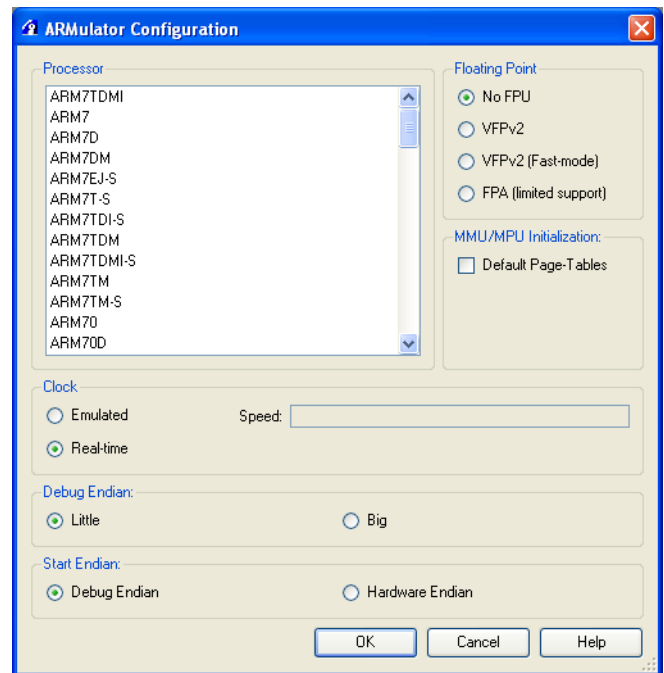

Figure 2-2 ARMulator configuration dialog box
- d. Select **Configure...** from the context menu to display the ARMulator Configuration dialog box. Figure 2-2 on page 2-12 shows an example: